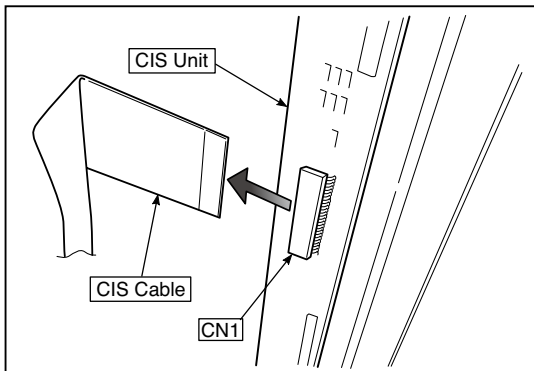

Fig.18
1.Disconnect the CIS Cable (FFC), shown in the figure 18, from a connector.